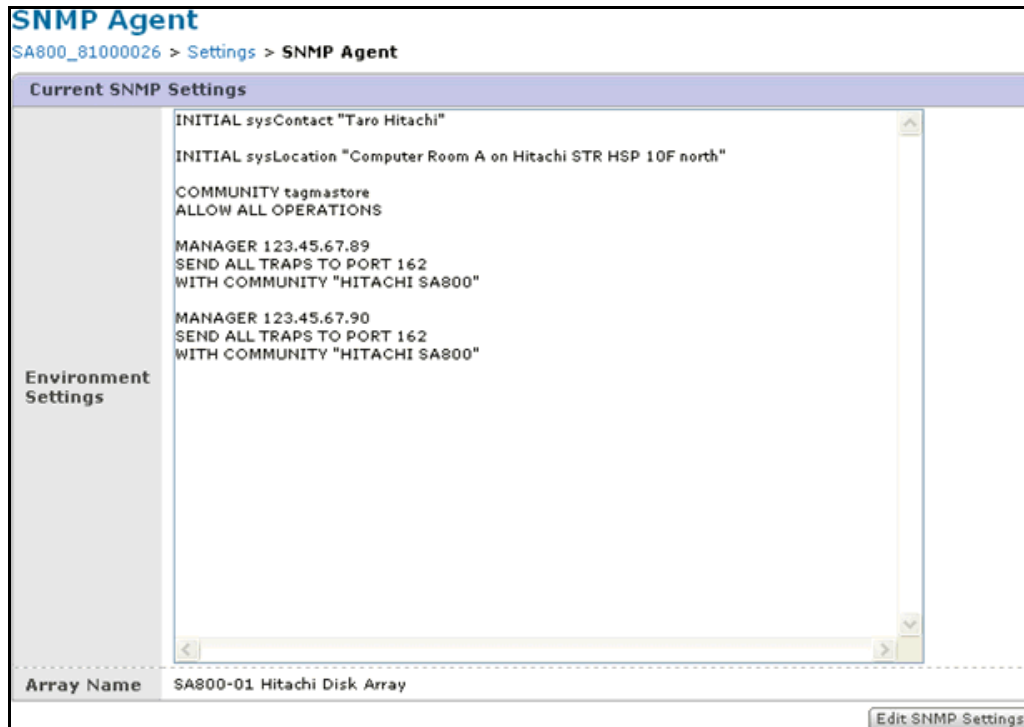

Figure 10-7: SNMP Agent Window — Current SNMP Settings
3. Select **SNMP Agent** in the Settings tree view. The SNMP Agent window is displayed. See Figure 10-7 on page 10-20.